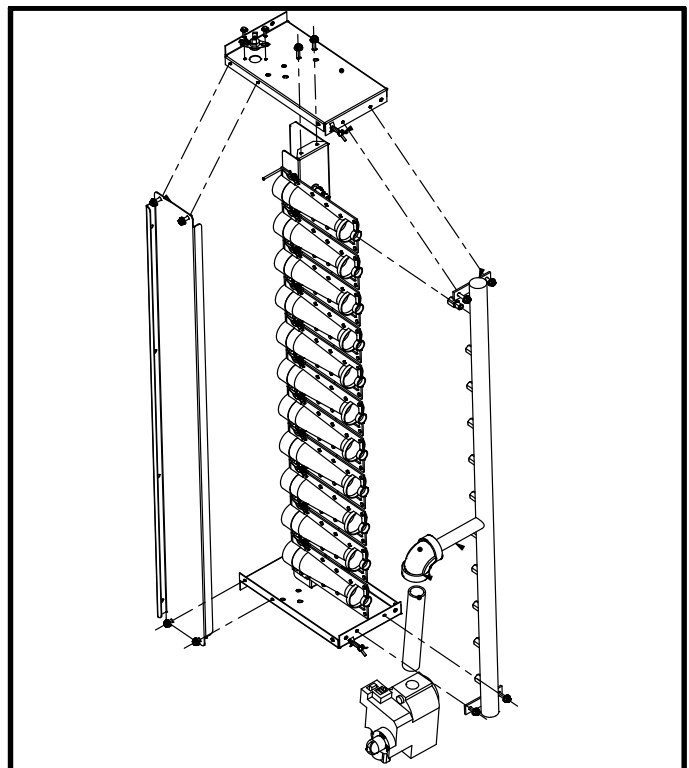

FIGURE 26
Figure 26 shows how to remove burner assembly.
- 3- Remove screws securing burners to burner support and lift burners from the orifices. See figure 26 . Clean as necessary. Spark gap on ignition electrode must be properly set. See figure 21.
- 3- Remove burners as shown in section IV-SYSTEM SERVICE CHECKS figure 26 and clean as necessary. Replace burners and check spark gap.